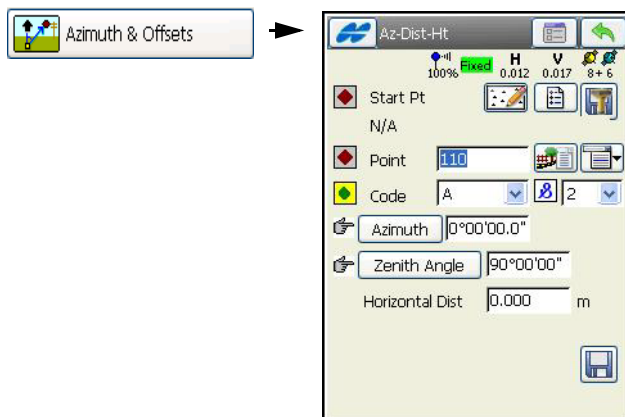

Figure 9-14. Azimuth-Distance-Height
-  **Azimuth & Offsets** – opens the *Azimuth-Distance-Height* screen to define a point specified by the offset from a point. See Figure 9-14 on page 9-14.
The *Azimuth-Distance-Height* screen (Figure 9-14) defines an offset point using the current point as a reference.